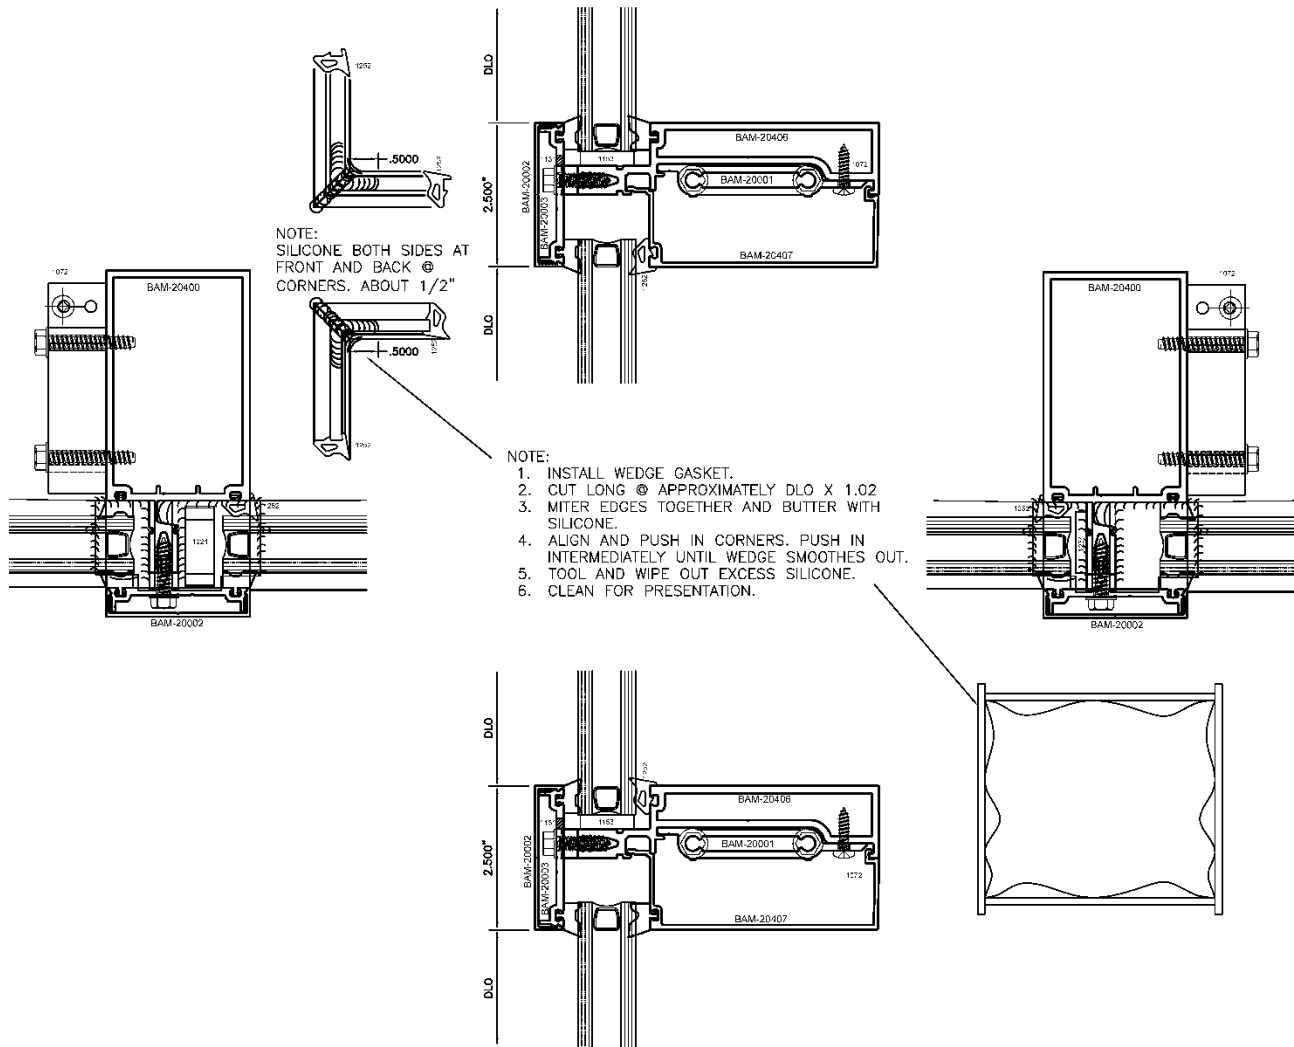

FIGURE B.2
- Install the wedge gasket. (FIGURE B.2)